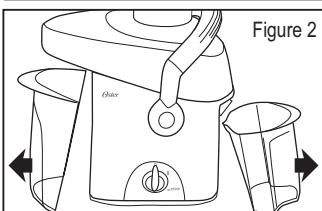

Figure 2
- Remove the jar and the pulp collector container by tilting it slightly (**Figure 2**)